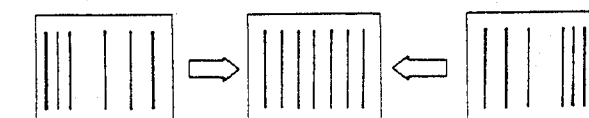

Fig. 28-7
3. Adjust the balance of H.lineality with H.L.B (RV28) on the D board as shown in Fig 28-7 "Change to horizontal".